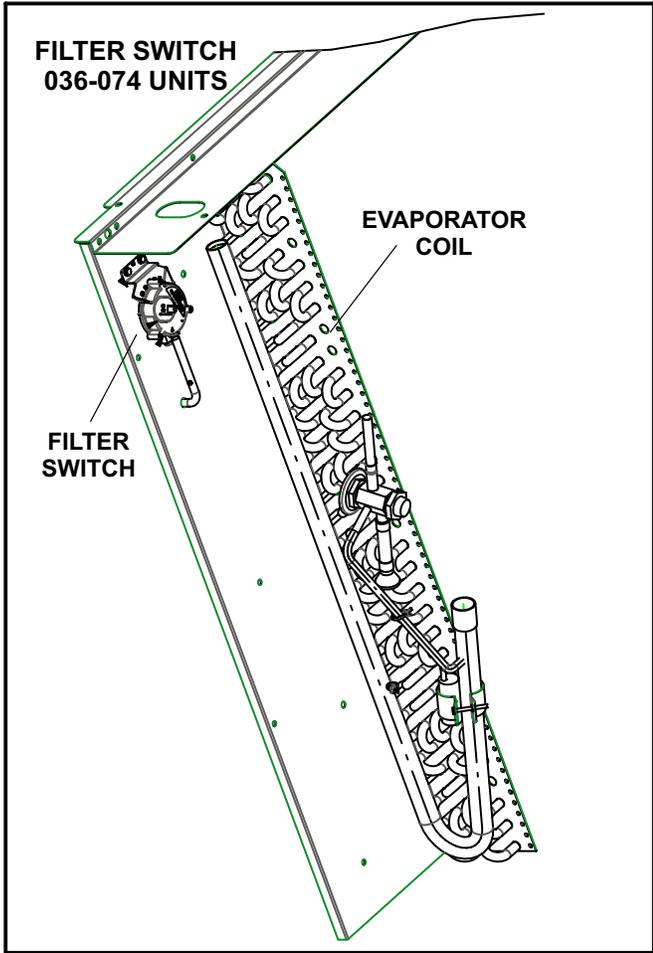
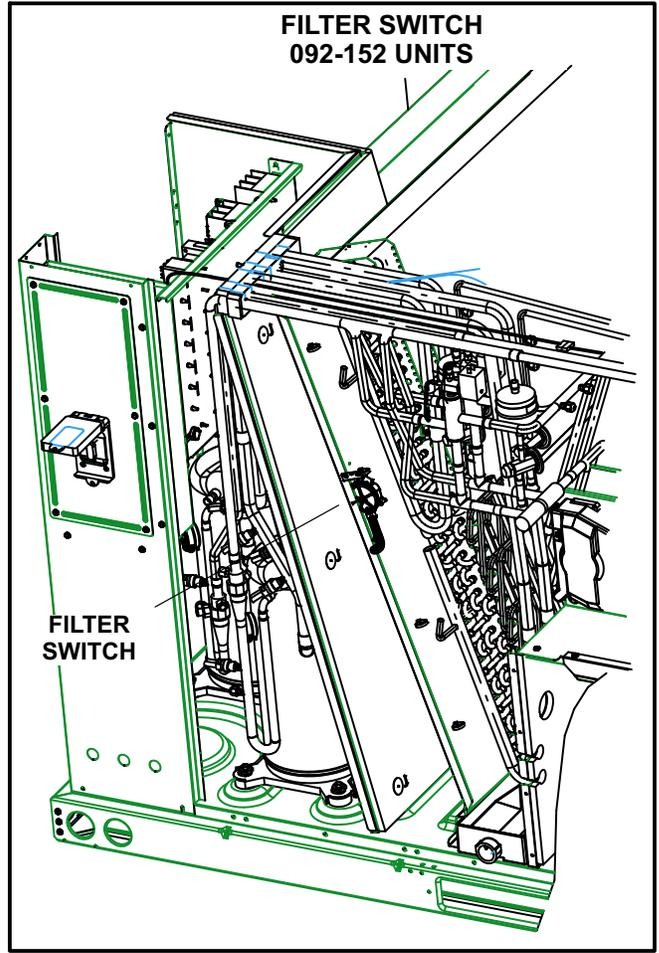

FIGURE 1
FIGURE 2
- 2- Install filter switch in location shown in figure 1 for 036-074 units, figure 2 for 092-152 units, figure 3 for 156-300S units and figure 4 for 420-600 units.